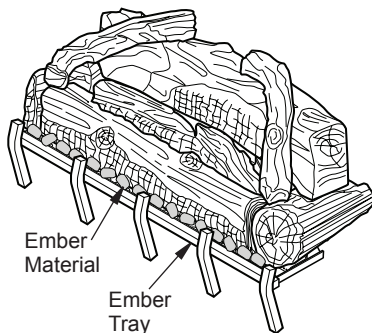

Figure 47 - Applying Ember Material
5. Break apart about quarter sized pieces and place a single layer along full length of ember tray to hide bottom edge of base log (see Figure 47).
Hold the control button on the hand-held remote until burner turns on. Hold the control button again until burner turns off (see Figure 47).